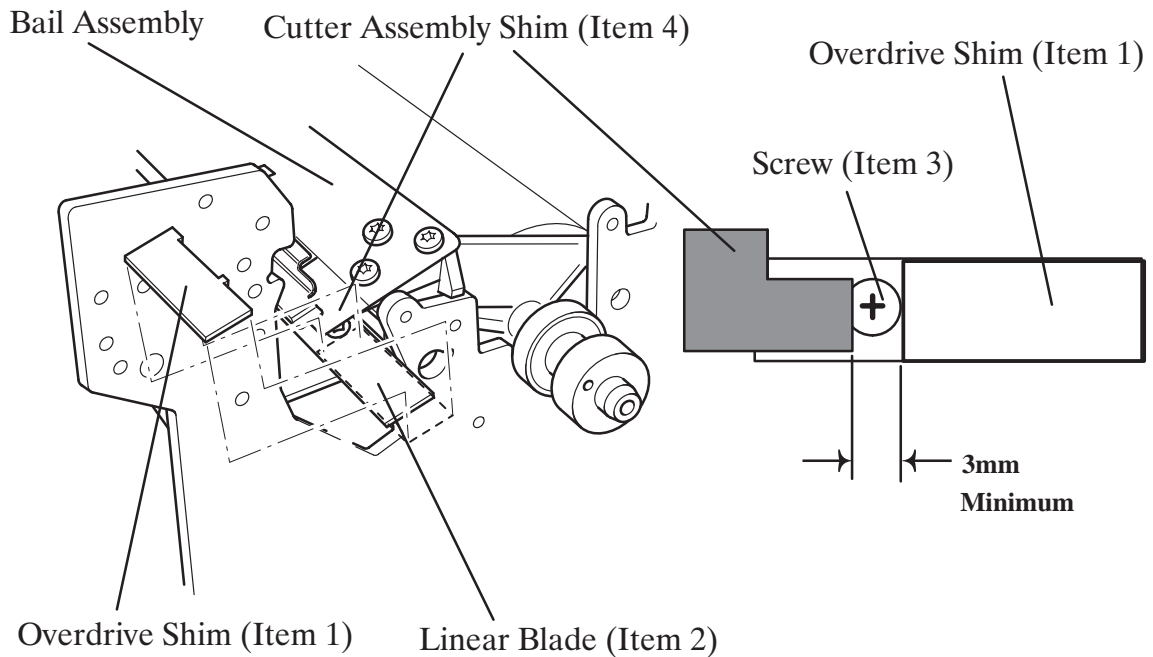

**Figure 25C: Media Button Cable Routing
Make sure you disconnect the Media Button Cable from the Service Station Interconnect PCA (See Figure 25C ▶ page 8-76).
Also make sure that the Media Button is routed correctly as shown on Figure 25C ▶ page 8-76.
3. Install the four T-10 screws (item 8) (two on each side) securing the overdrive assembly (item 9) to the left and right hand side chassis.
4. Install the clutch (item 4) and two washers (item 5) on the left end of the overdrive shaft, then secure with the retaining clip (item 3).
5. While pressing down on the roller support bracket, install two T-15 screws (item 1) securing the roller support bracket to the chassis.
6. Connect the Media Button Cable to the Service Station Interconnect PCA (See Figure 25C ▶ page 8-76).